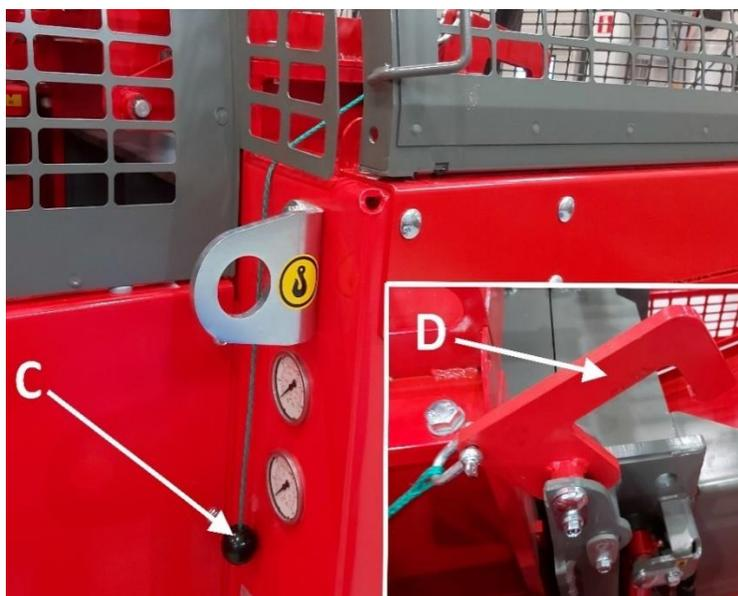

Figure 20.
4. When lowering the blade back to the lower position, pull cord C in figure 20 to unlock the multiplier knife and raise the stopper D to the upper position, allowing the multiplier knife to lower into the lower position.